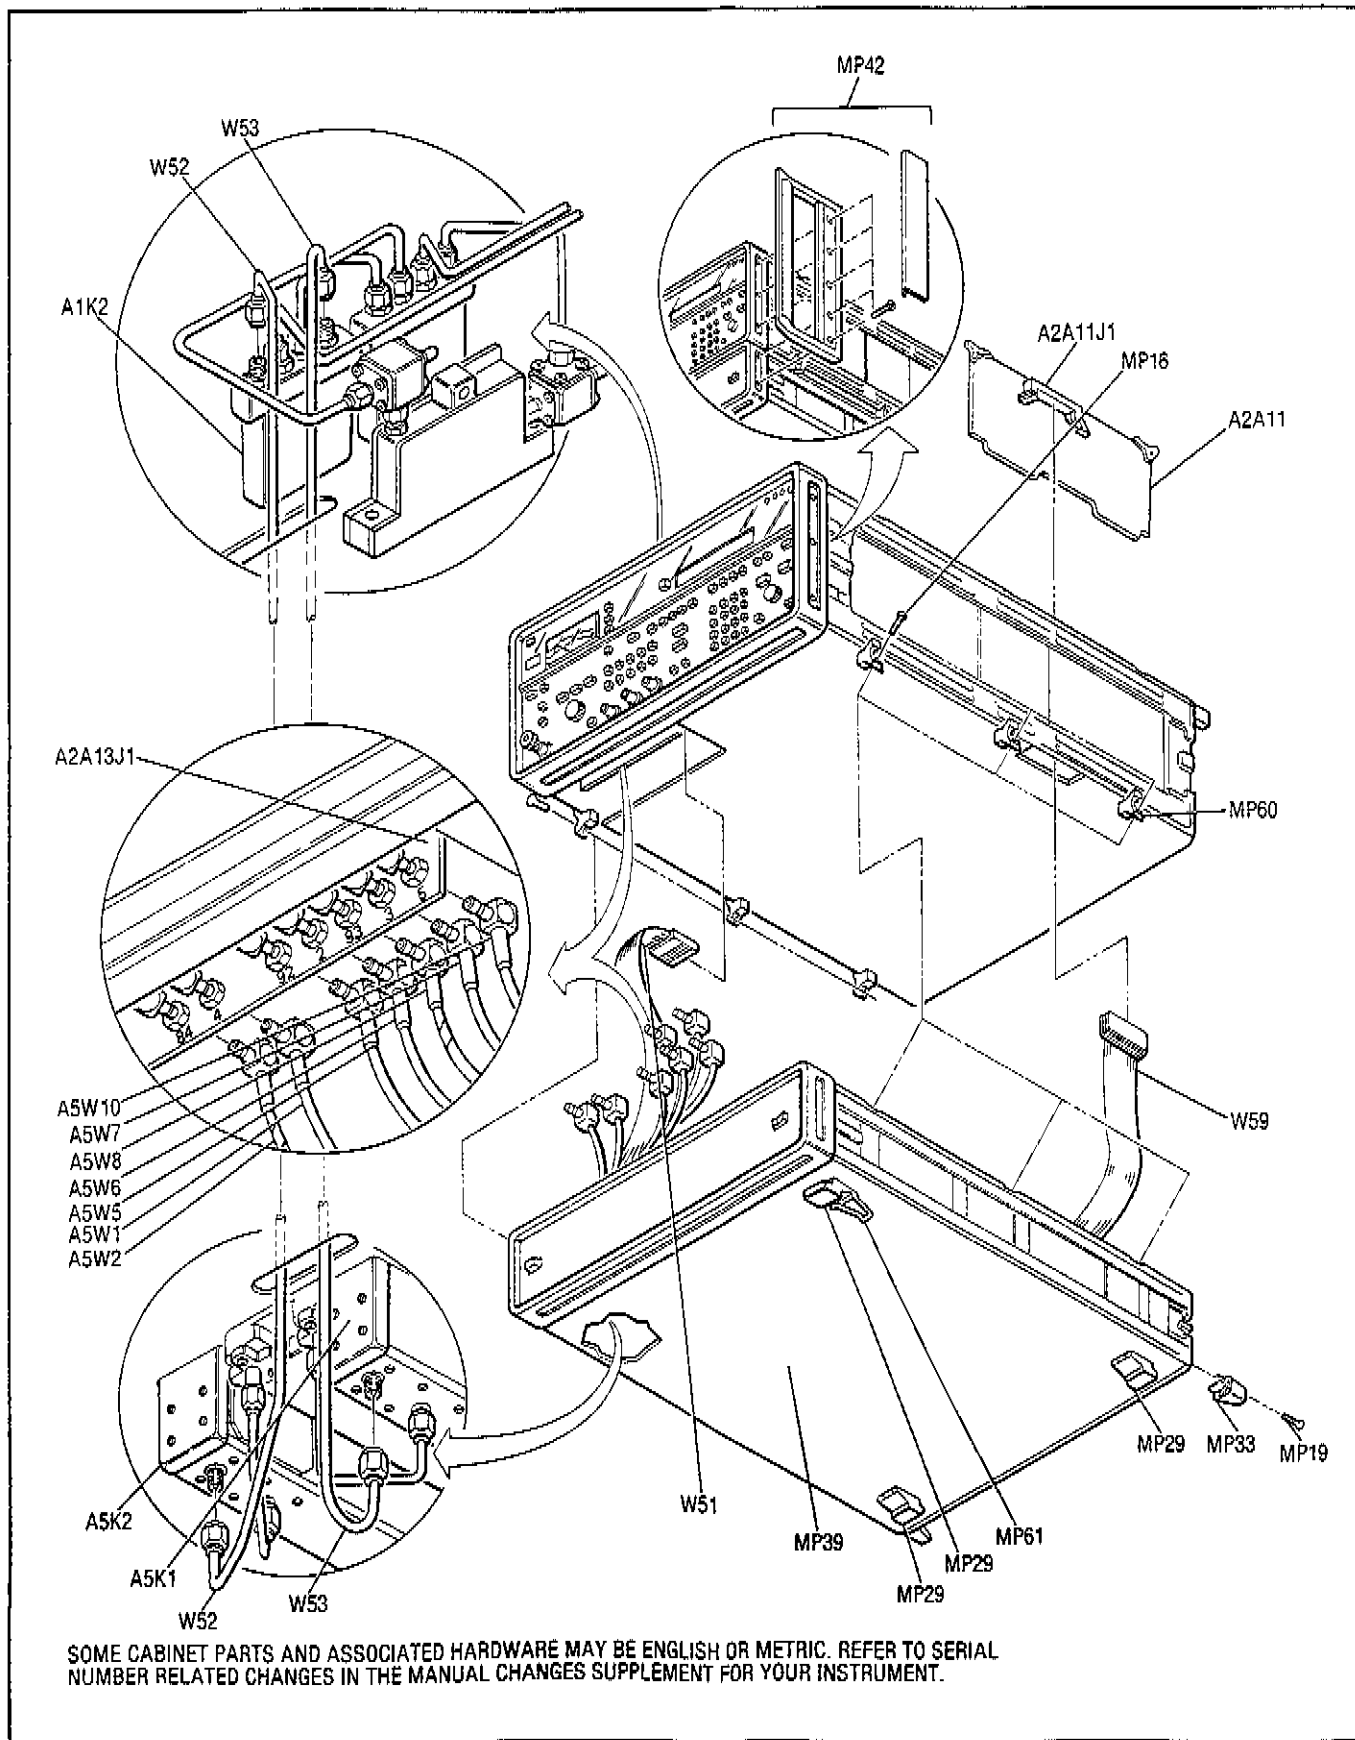

Figure 8-302. Unit Separation
- g. Refer to Figure 8-302 for the following steps.